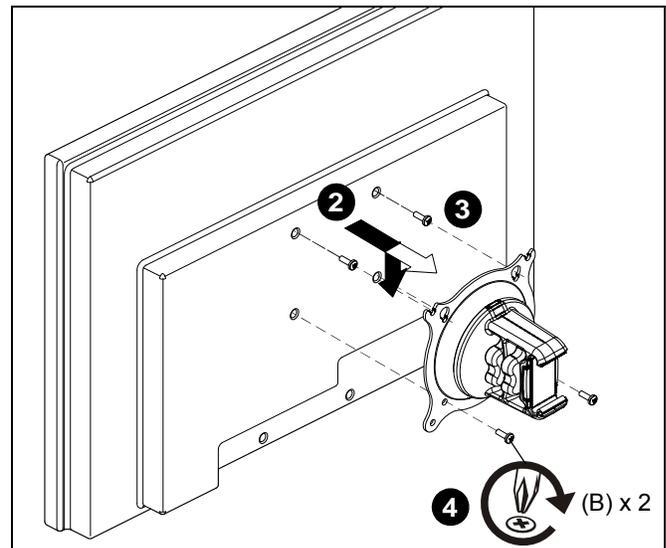

Figure 3
3. Place two screws in display back into upper teardrop mounting holes in KTA-1005 and lower display until screws are seated in lower area of teardrop mounting holes. (See Figure 3)
4. Install two screws through display mounting plate and into lower mounting holes in display back. (See Figure 3)